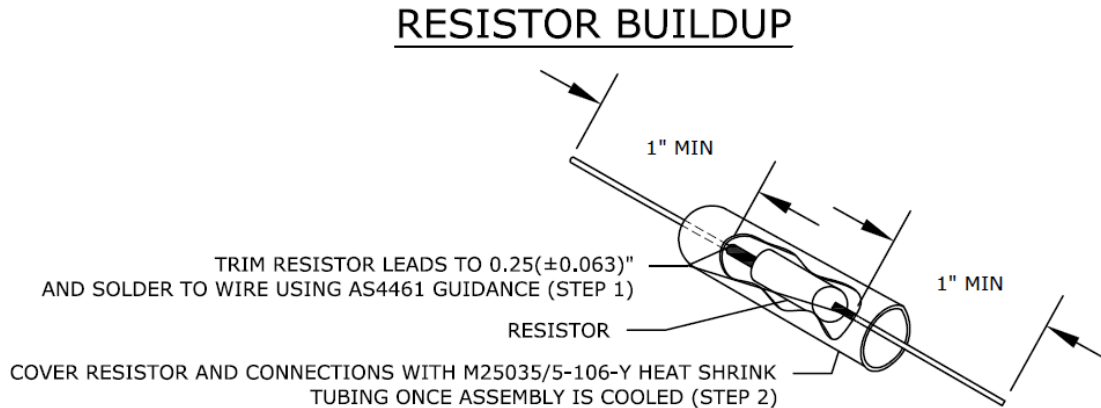
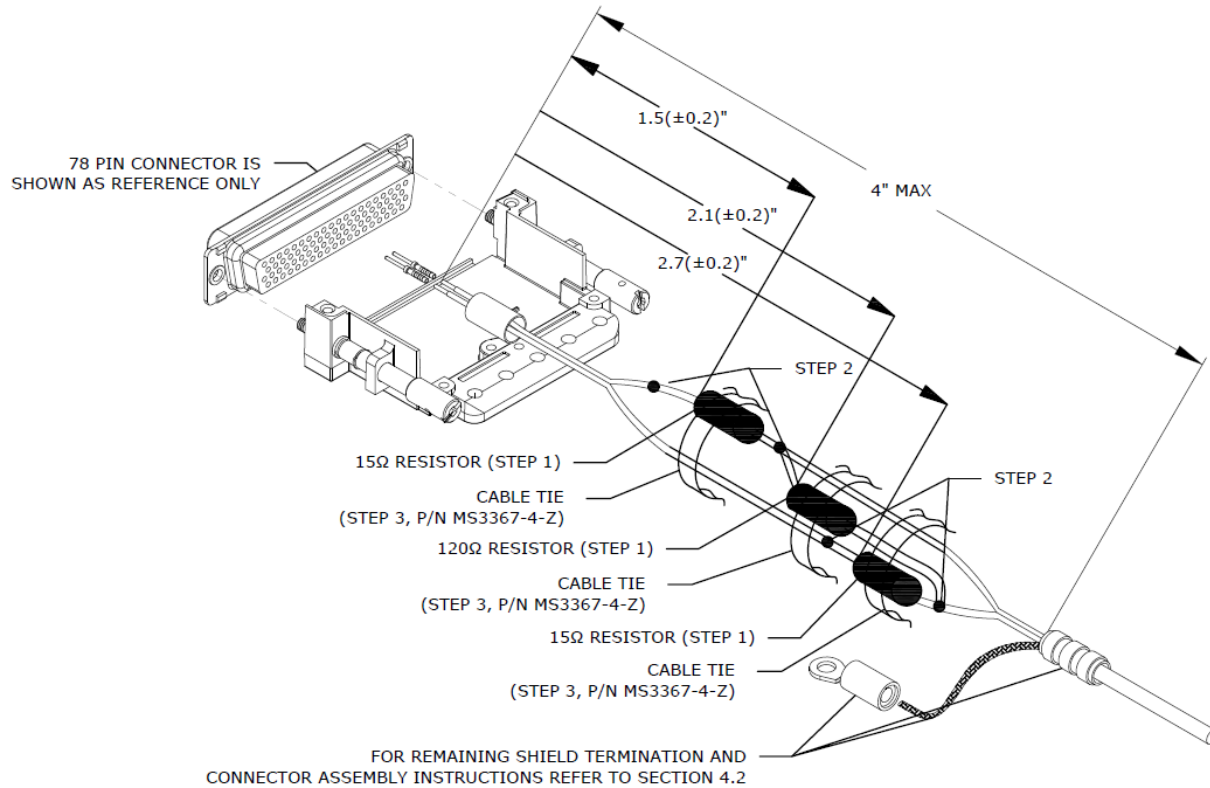

Figure 3-10 Method B G5 Resistor Preparation
Figure 3-11 Method B Placement of CAN Bus Components
- Method B should be used for resistor installations that use the G5 as a terminator and are utilizing shielded twisted-pair cable, MIL-C-27500, see Figure 3-10 and Figure 3-11.
Figure 3-10 shows the preparation procedure for the components into the wiring harness. For part numbers of resistor, see Section 3.2.1. Figure 3-11 shows the placement requirements of the resistors on the CAN bus wiring. See Section 5 for complete wiring interconnect details.
1. Create resistor buildups as shown in Figure 3-10.